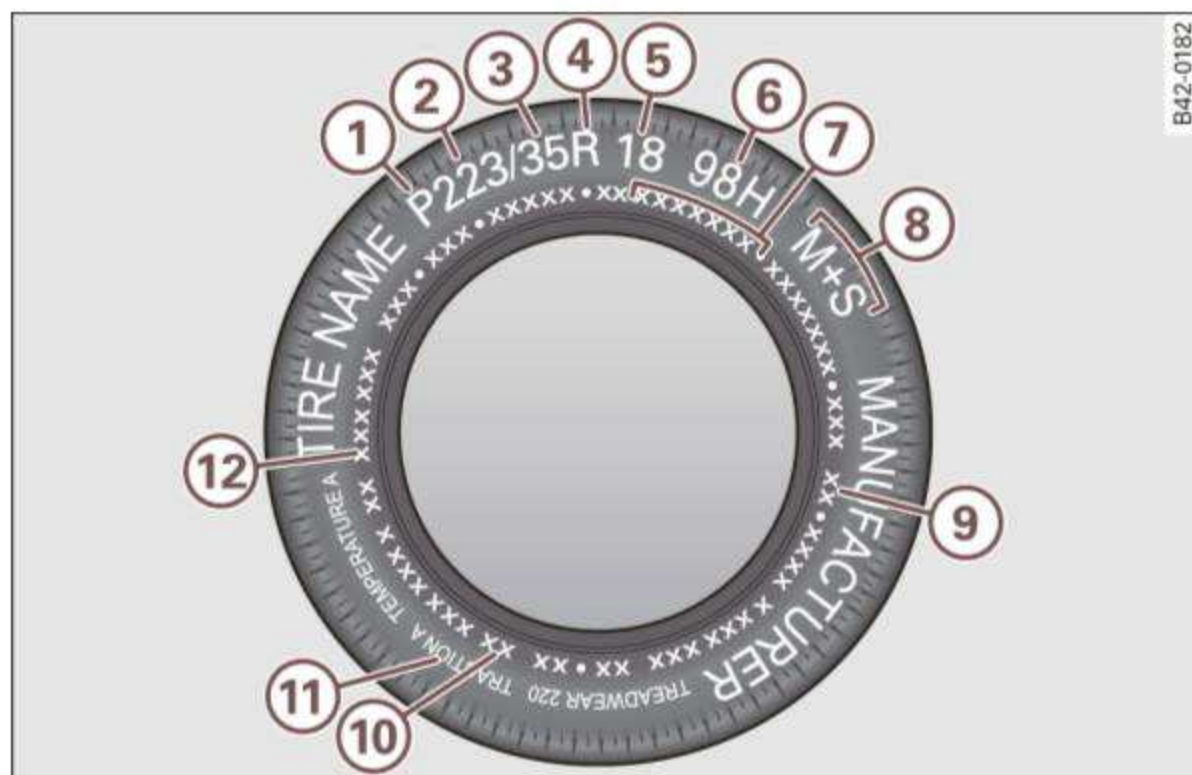

Fig. 127 Tire specification codes on the sidewall of a tire
- Check the tire sidewall (⇒ *page 216*, fig. 127) to determine the designated load rating for a specific tire. ■
Federal law requires tire manufacturers to place standardized information on the sidewall of all tires ⇒ *page 216*, fig. 127. This information identifies and describes the fundamental characteristics, the quality grade of the tire and also provides a tire identification number for safety standard certification and in case of a recall.
Quality grades can be found where applicable on the tire side wall between tread shoulder and maximum section width ⇒ *page 216*, fig. 127.